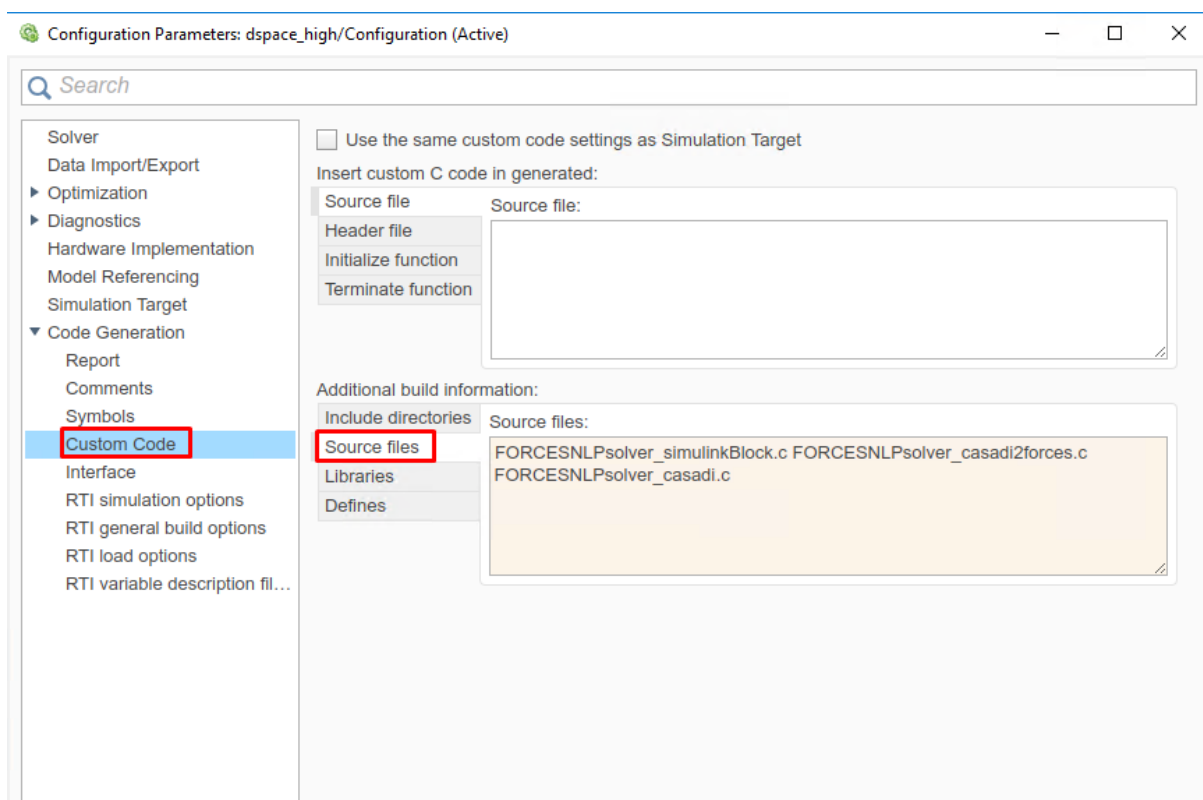

Figure 13.11: Add the source files used for the code generation.
11. (Figure 13.11) In the “Code Generation/Custom Code” tab, add the source files: